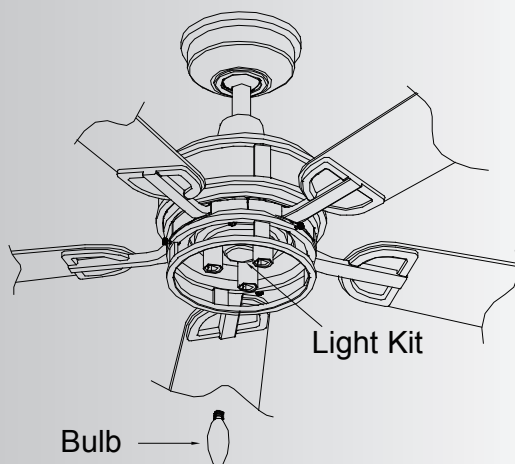

Fig. 22
Step 1. Install the 3, 40 Watt/B10 incandescent lamps (included). (Fig. 22)